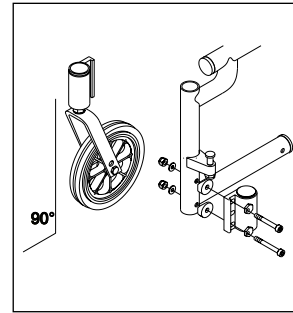

Figure 26
1. Caster Angle Adjustment (Fig. 26)